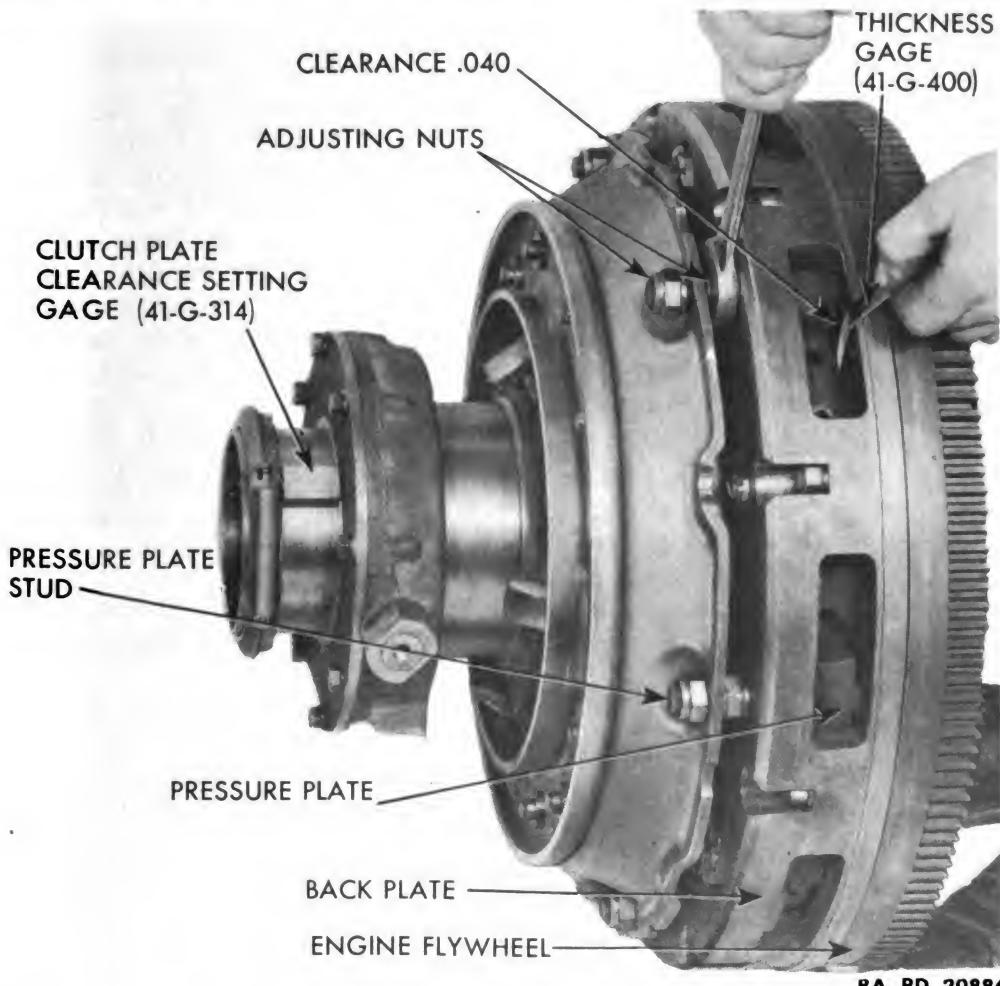

Figure 156 — Adjusting Clutch Pressure Plate with Clutch Plate Clearance Setting Gage and Thickness Gage
h. Adjust Clutch Pressure Plate Clearance (fig. 156). With front driven plate in place, attach clutch assembly to flywheel with nine nuts and lock washers. Using clutch plate clearance setting gage (41-G-314), and thickness gage (41-G-400), adjust pressure plate clearance. Place 1.2-inch long gage (41-G-314) between release bearing retainer and stop clamp. This places clutch in neutral position. Insert 0.040-inch feeler gage between the pressure plate and the driven plate, which is between the flywheel and pressure plate, and adjust the pressure plate with adjusting nuts so the thickness gage (41-G-400) will pass between the two with a slight amount of drag. Repeat this operation at each stud. When pressure plate is adjusted to a uniform clearance all around, and all adjusting nuts are properly tightened, the clutch is ready for use.